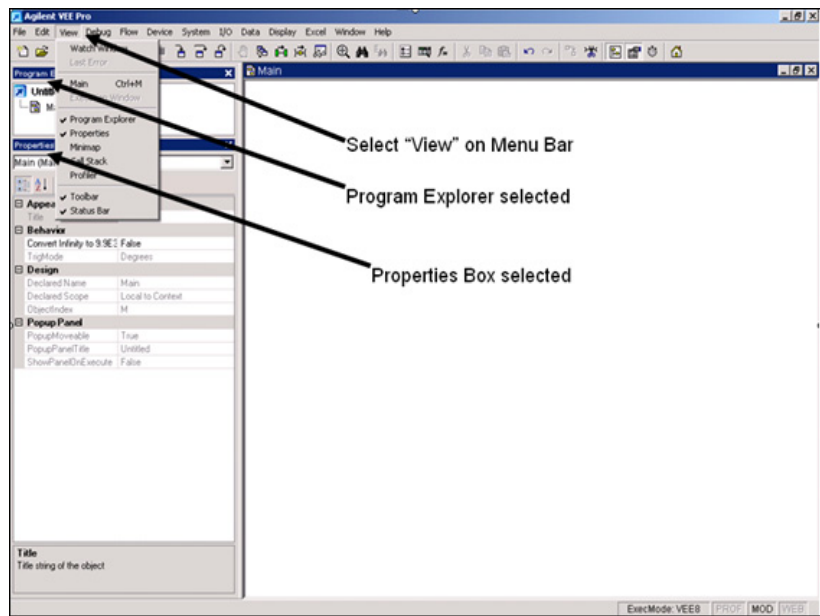

Figure 1-3 The Work Area with Program Explorer and Properties Displayed
- 1 Go to Menu Bar => View and select (with a check mark) Program Explorer and then Properties. The result of these selections is displayed in Figure 1-3. The first item selected is the Program Explorer. Its display is on the top left side and shows the hierarchical location of the Main Work Area. This hierarchy will be expanded upon in later exercises. The second item displayed is the Properties window. It describes the properties of the Main Work Area screen.